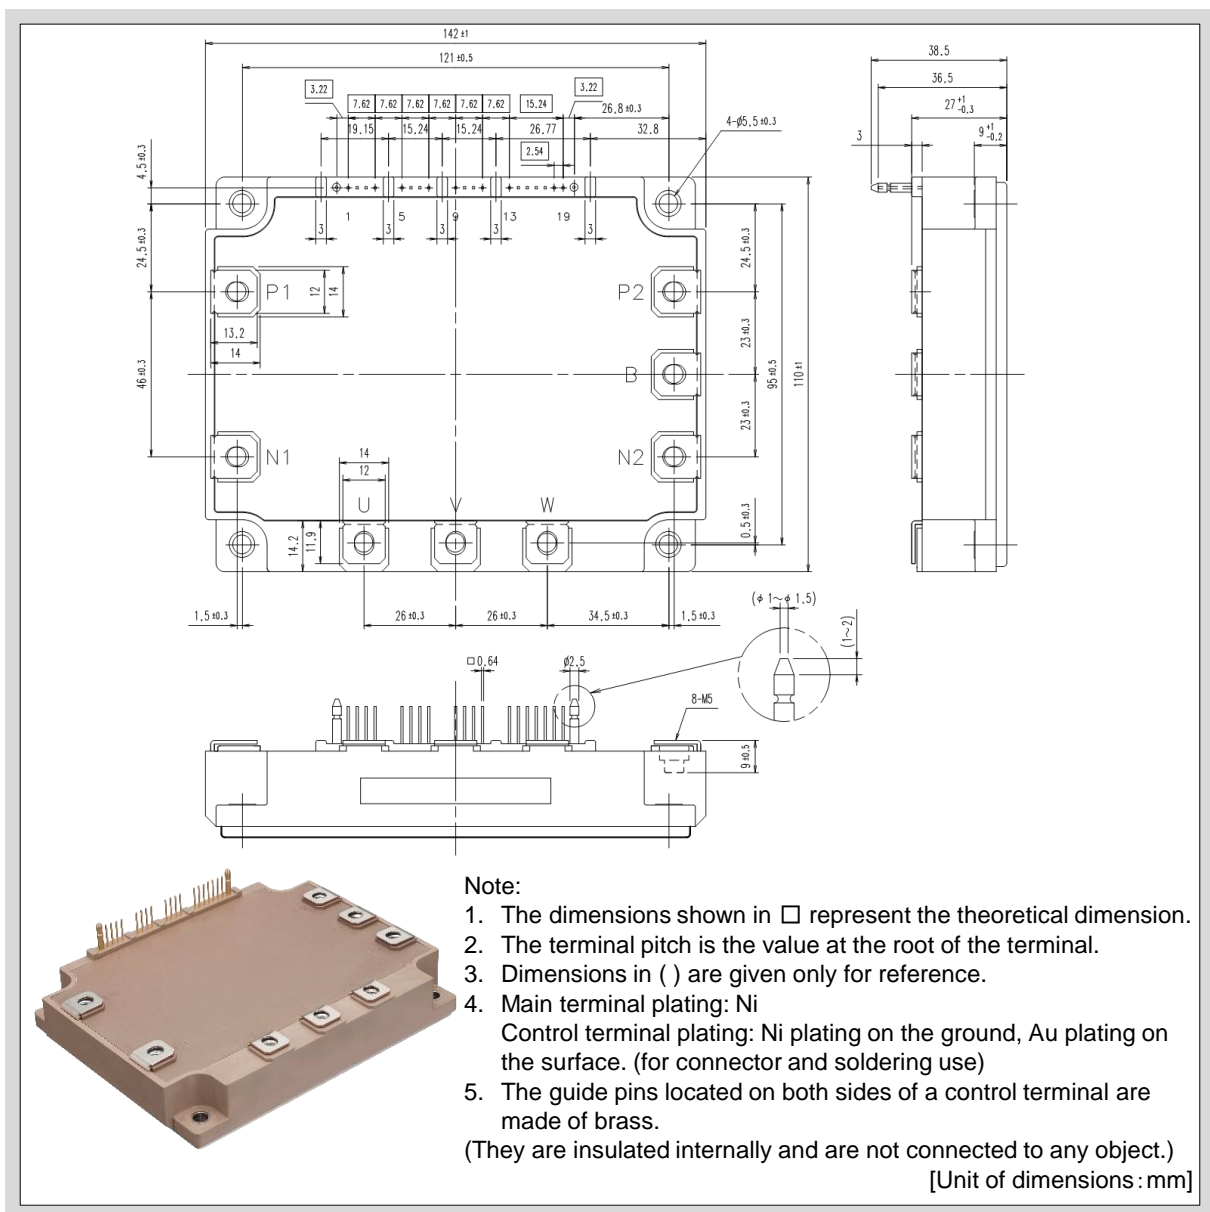

Fig.1-9 Package outline drawing (P631)
- The main power input (P1, P2, N1, N2), brake input (B), and output terminals (U, V, W) are located close to each other, making main wiring easy. The P1 and P2, N1 and N2 terminals are internally connected.
- The package outline drawing is shown in Figure 1-9.